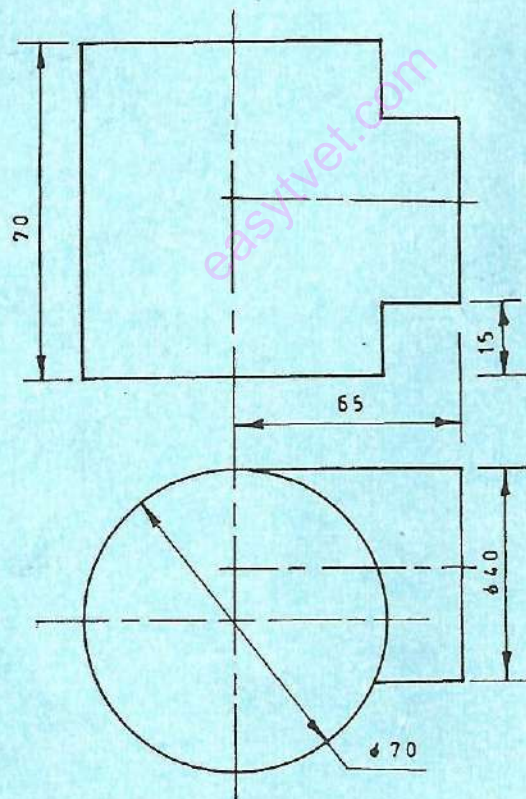

Fig. 2
4. Figure 2 shows the views of two intersecting cylinders. Copy the given views and draw;